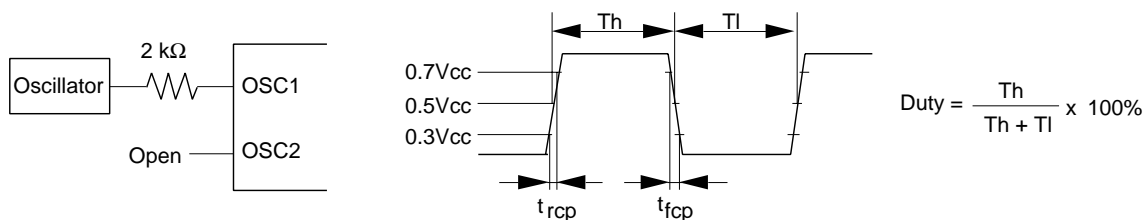

Figure 62 External Clock Supply
9. Applies to the external clock input (figure 62).